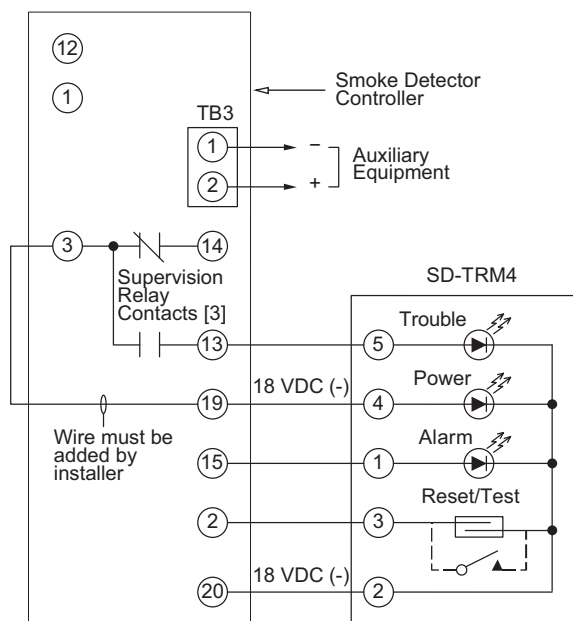

Fig. 55 — Remote Test/Reset Station Connections
The test/reset station dirty sensor test checks the test/reset station's ability to initiate a sensor dirty test and indicate the results. It must be wired to the controller as shown in Fig. 55 and configured to operate the controller's supervision relay. For more information, see "Dirty Sensor Test" on page 39.
1. Verify that the remote test/station is wired as shown in Fig. 55. Repair or replace loose or missing wiring.